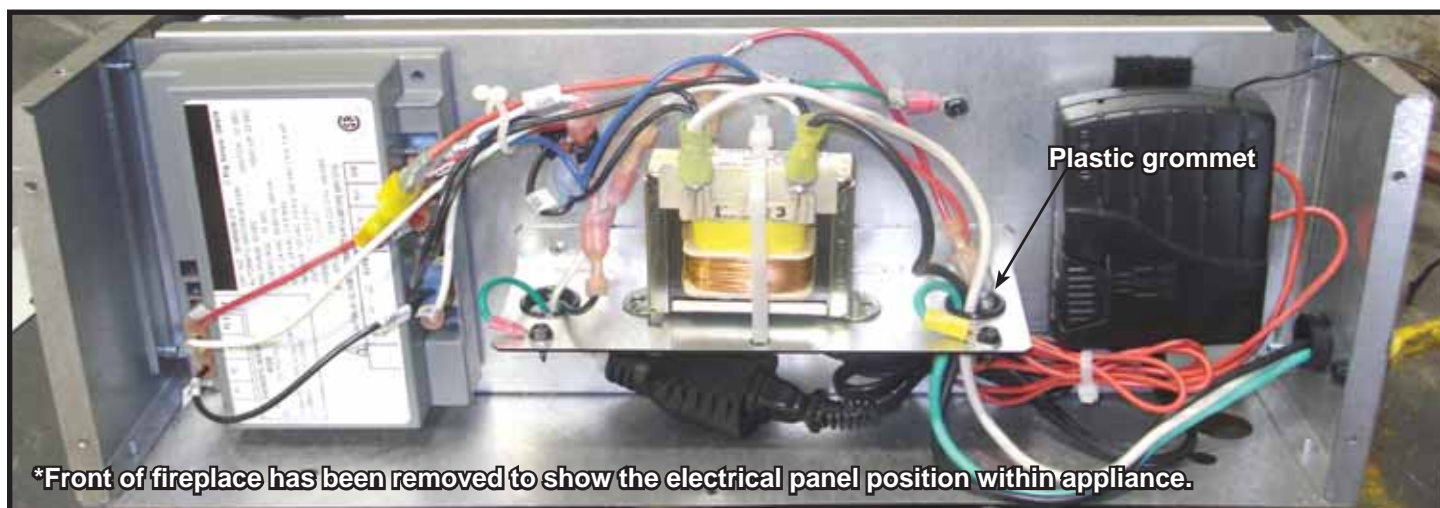

Figure 10.1 Electrical Panel position inside Appliance with Front removed.
This appliance requires 110-120 VAC be wired directly to the transformer. See Figure 10.1.
4. Route electrical service wires through plastic grommet as show in Figure 10.1. This plastic grommet is located on the right side of the Transformer bracket.